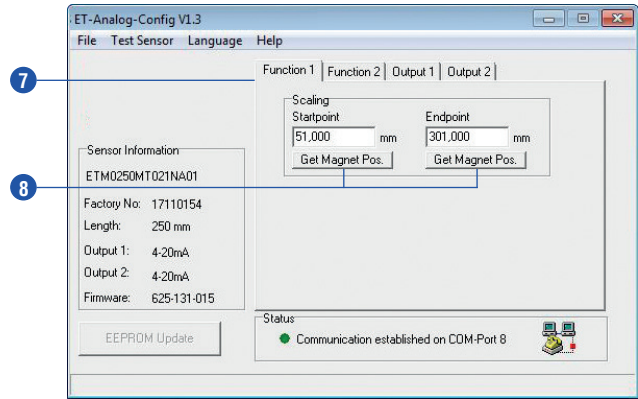

Fig. 34: Dialog field with tabs
- 7 Determine the measuring range with **Startpoint** and **Endpoint** via tab **Function 1** (Fig. 34).
- 8 The current magnet position can be stored via buttons **Get Magnet Pos..** The measuring direction changes, when the value of the **startpoint** is higher than the value of the **endpoint**. Independent of the measuring direction, the minimum measuring distance is 25 mm (Fig. 34).